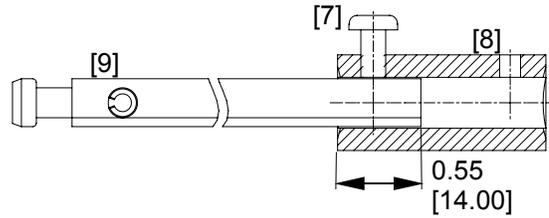

Figure 6. Assemble the shaft and coupler.
- c. Insert the shaft [9] upto 14 mm (0.55 inch) into the coupler [8] and secure it with two #8-32 X 0.312" screws [7], as illustrated in Figure 6. Tighten the screws to 16 - 20 in-lb.